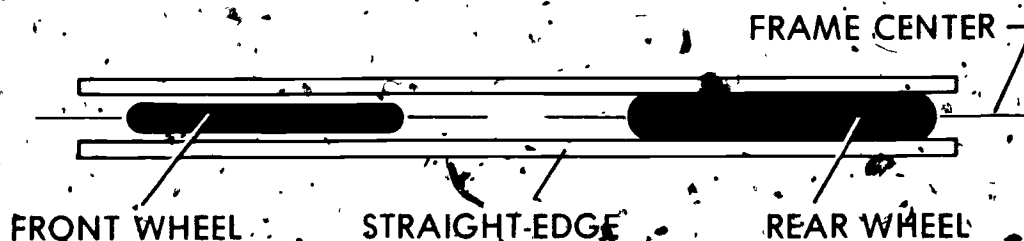

FIGURE 1
- C. Place straight edges on the sides of the rear wheel and observe the relationship to the front wheel (Figure 1)